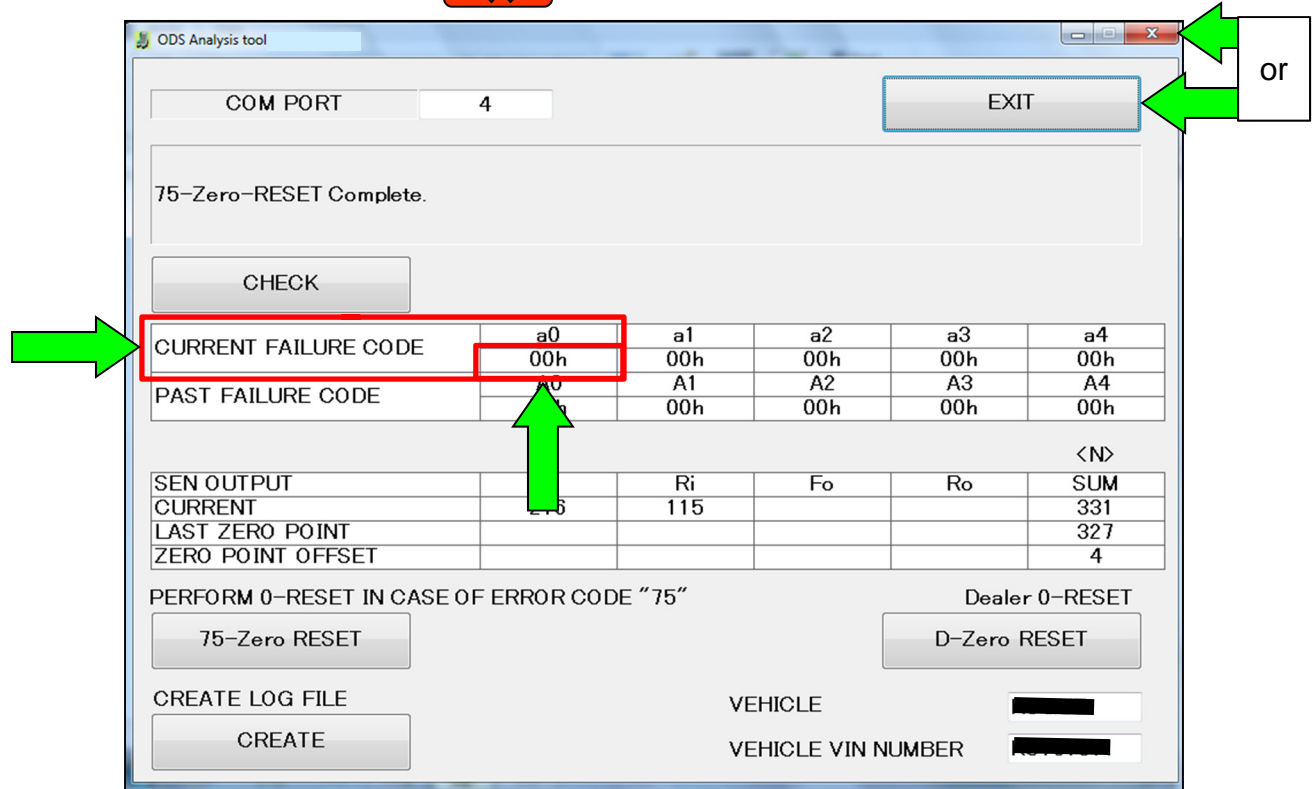

Figure 10
17. When the screen in Figure 10 displays, the 75-Zero reset process is complete.
18. Select either **EXIT** or the  in the upper right corner (see Figure 10).